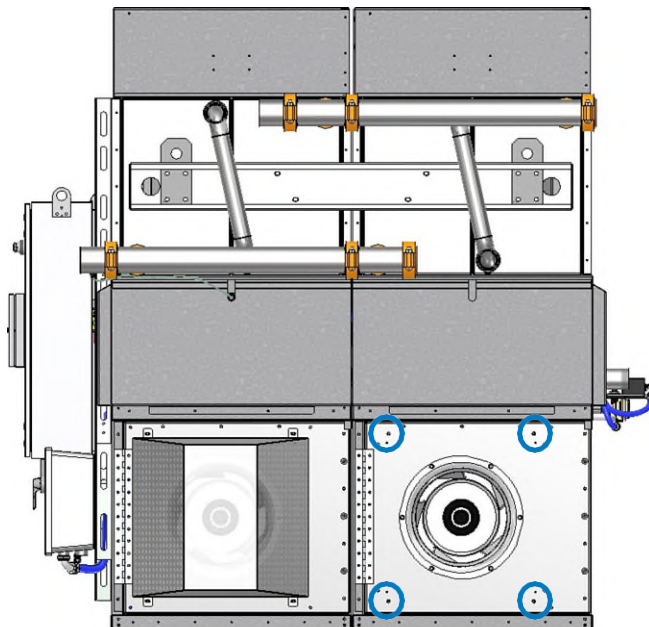

Figure 24a. Figure 24a. Fan Guard Installation Step 1
1. Remove the fastener from the EC Fan System panel. The fastener will be reused in step 2. See Figure 24a.